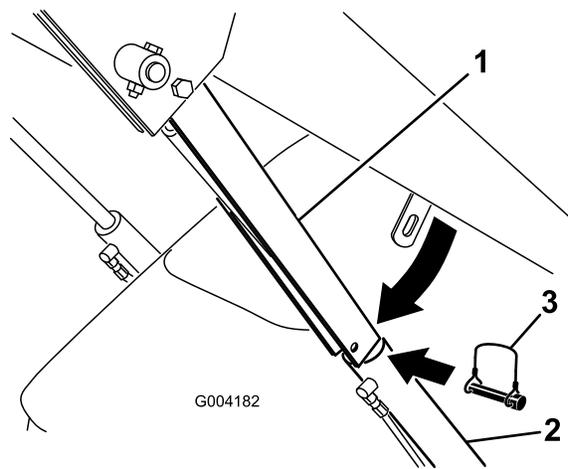

Figure 14
4. Remove the lynch pin securing the cylinder lock to the loader arm (Figure 14).
5. Lower the cylinder lock over the cylinder rod and secure it with the lynch pin (Figure 14).